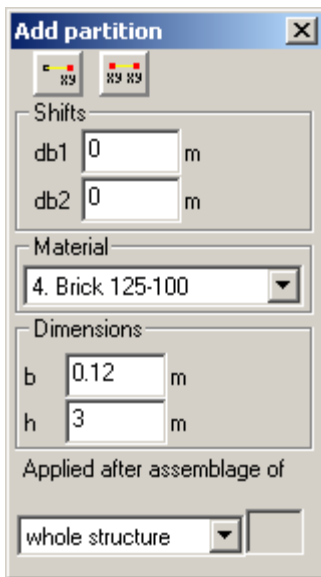

Figure 1.11.1 Add partition dialog box
- ⇒ In the **Add partition** dialog box (see Fig.1.11.1), define the following parameters: